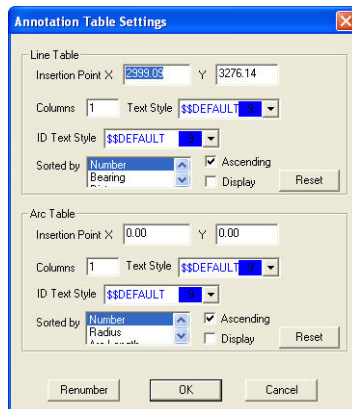

Figure 9-106. Annotation Table Settings
4. To modify the table, double-click inside the table to open the *Annotation Table Settings* dialog box (Figure 9-106).